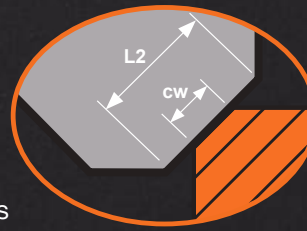

Fig. 1 - Chamfer Saddling
- Proper Saddling (Fig. 1): It is advisable to choose a tool size that matches the chamfer width (cw) by using less than 80% of the cutting edge, as seen in Figure 1, and positioning the tool at the center. The (L2) dimension may be found within our product charts on pages 62, 64, and 65.